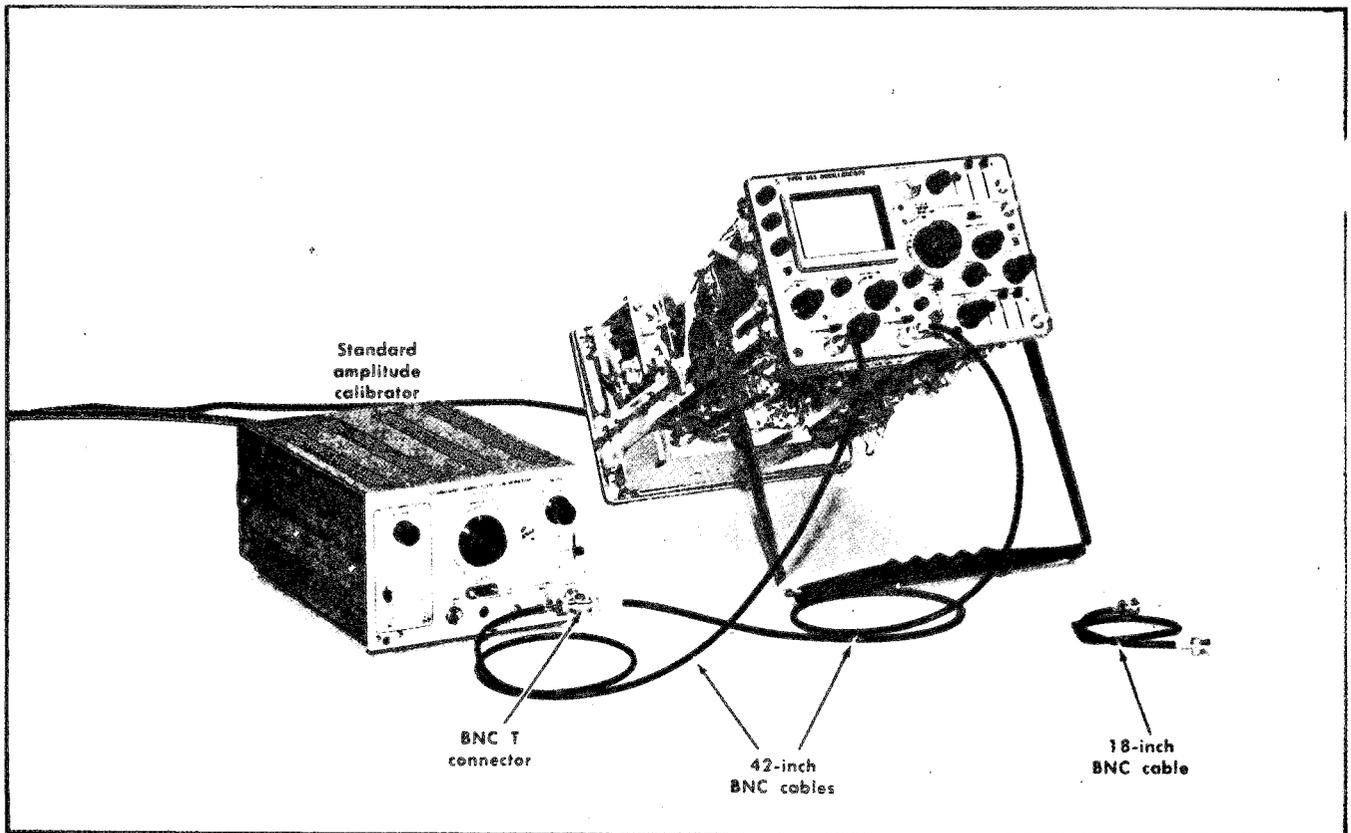

Fig. 6-16. Initial test equipment setup for steps 13 through 21.
a. Test equipment setup is shown in Fig. 6-16.